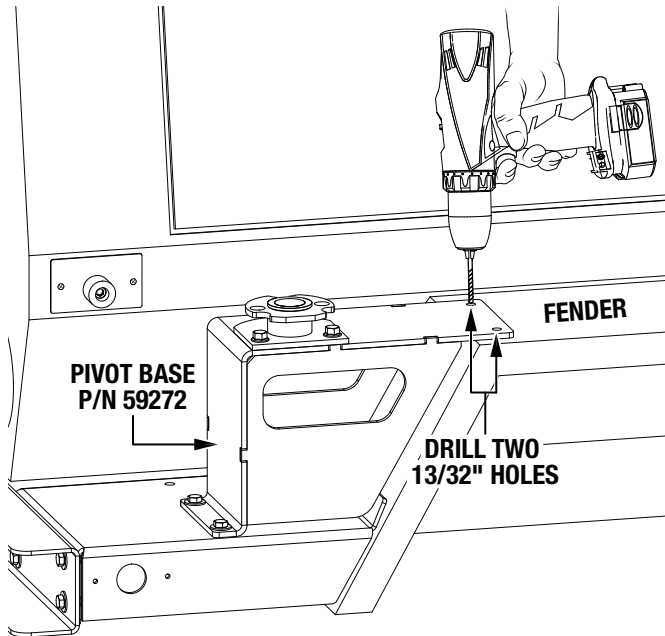

Figure 18. Drill Pivot Base Holes
- Using the pivot base (P/N 59272) as a guide, drill two 13/32-inch holes into the top of the fender as shown in Figure 18.